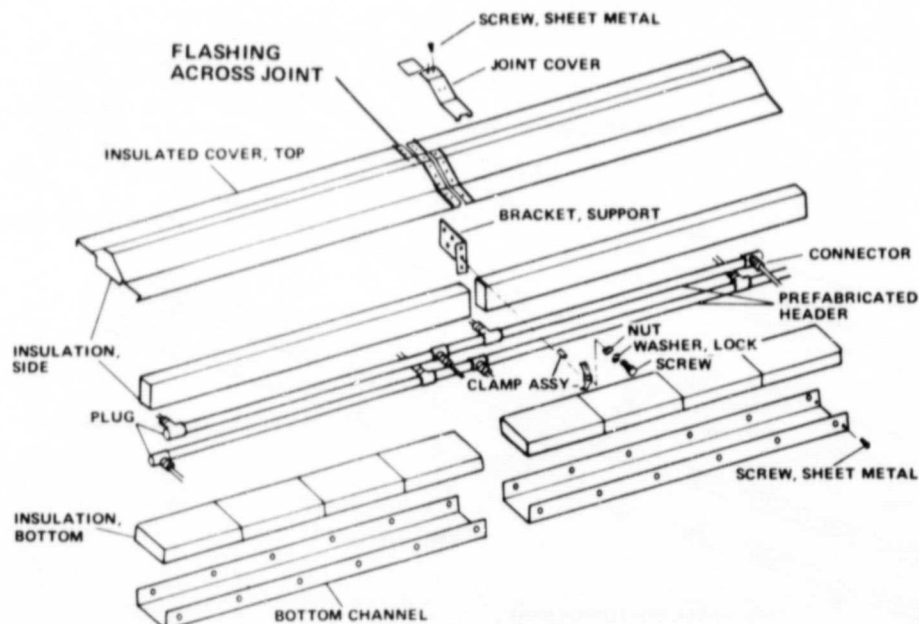

Figure 5-9. Assembly of Dual Row Header Kit (8 Feet Long)
For dual row header assemblies (Figure 5-9), the bottom channel should be installed before plumbing. See Section 3.4, installation procedure for dual-mounted collectors.
3. Install joint covers over the gaps between adjacent header covers with sheet metal screws as shown in Figure 5-9 and complete by crimping lips on slotted end over the adjacent collector frames. Also, it is recommended that a silicon-based sealant be applied at the gap interface before installing the joint covers. Apply flashing to the end closures for weather proofing.